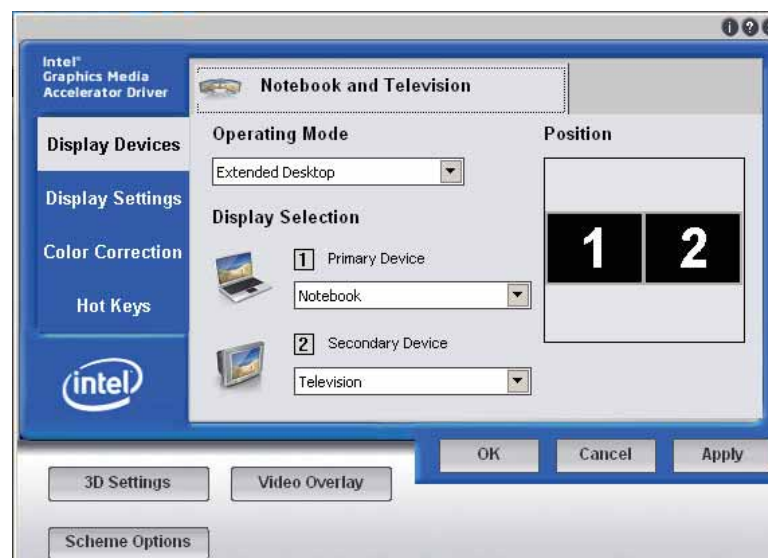

Fig.3-5
3) Choose "Notebook" for "Primary Device", and choose "Secondary Device" for "Television", and then press "apply". See picture in Fig.3-5